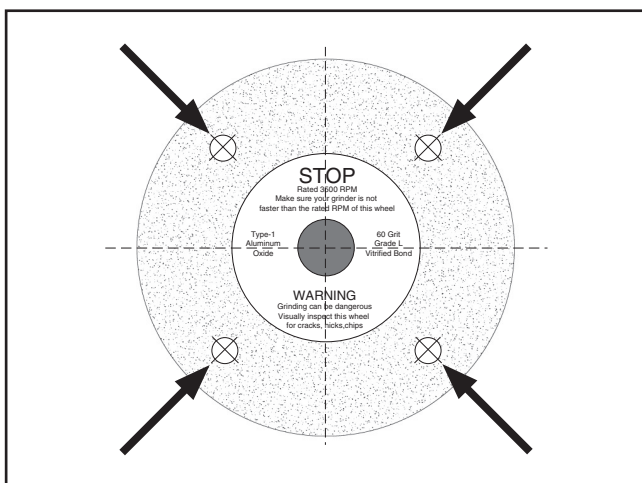

Figure 6. Tapping locations when performing a ring test.
3. At the spots shown in **Figure 6**, gently tap the wheel with a light non-metallic device such as the handle of a screwdriver or a wooden mallet.